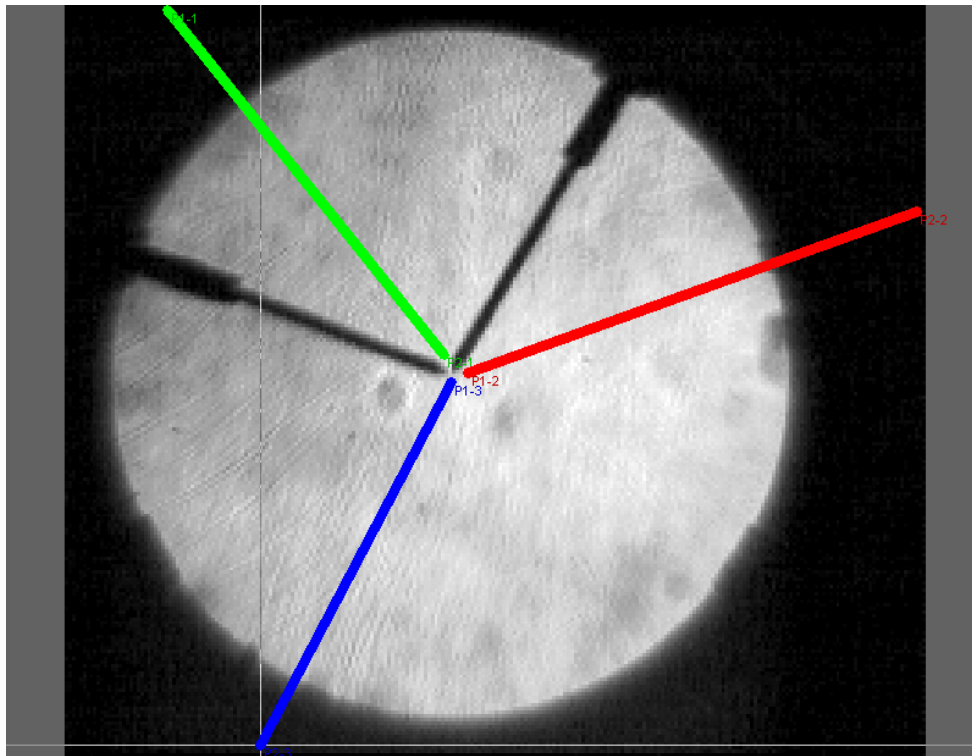

Figure 3
7. Additional lines can be placed by clicking the **“Add”** button. Add two more lines to the image and repeat steps 3-6 for each one. Your video image should resemble Figure 3.